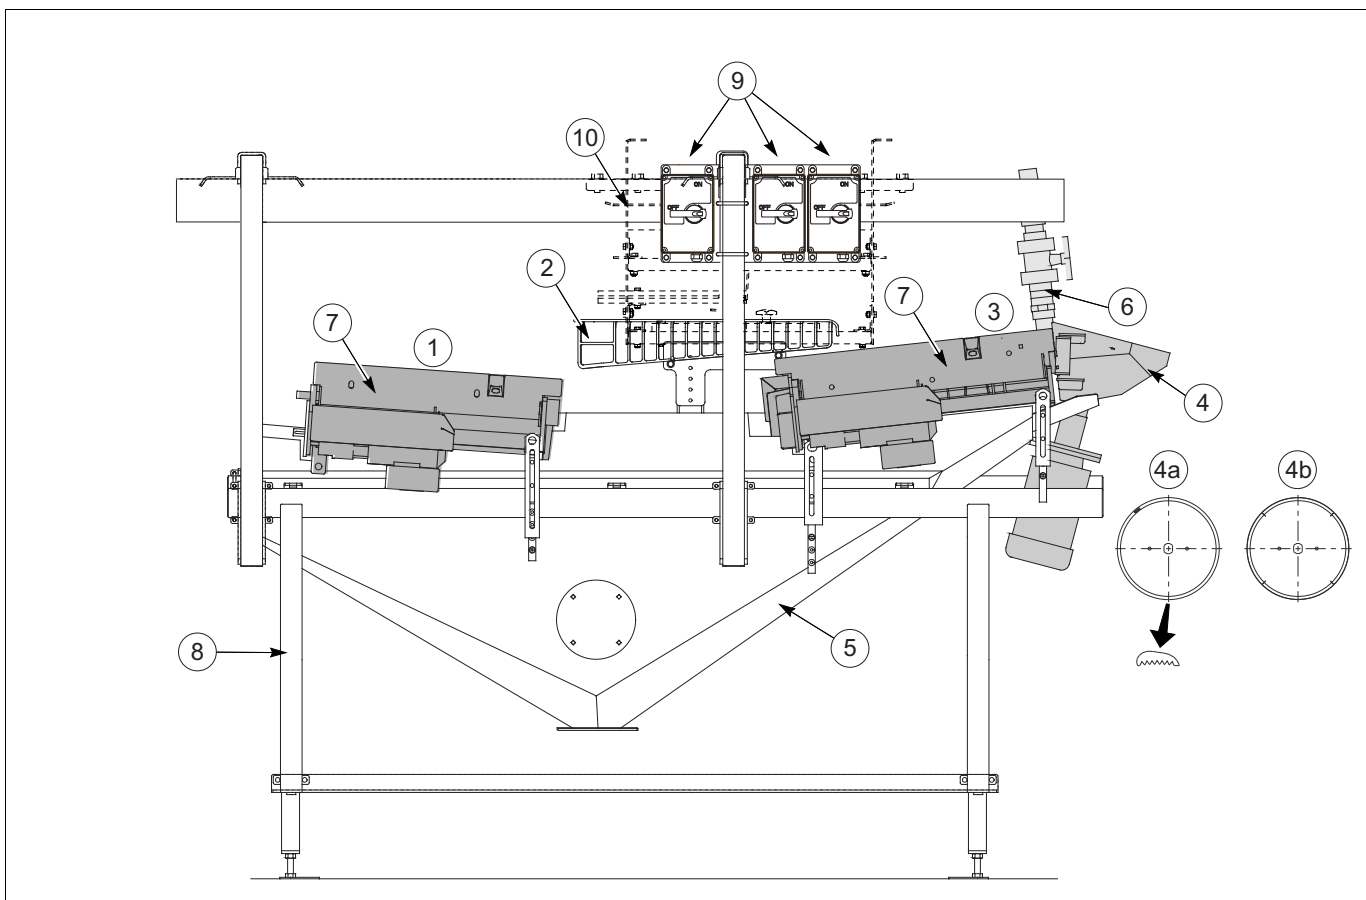

fig. 3 Names
- Unloading station (see fig. 3)
See fig. 3.
If the unloading station (option, see fig. 3) is used, then the viscera pack is unloaded before treatment and carried away by the collecting bin.